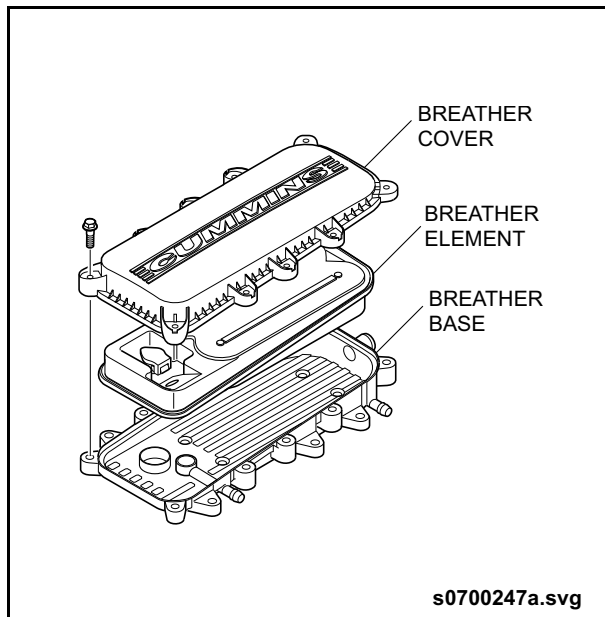

Fig. 2: Crankcase Breather
3. Remove the eleven bolts that attach the crankcase breather cover to the crankcase breather base. See "Fig. 2: Crankcase Breather" on page 2.